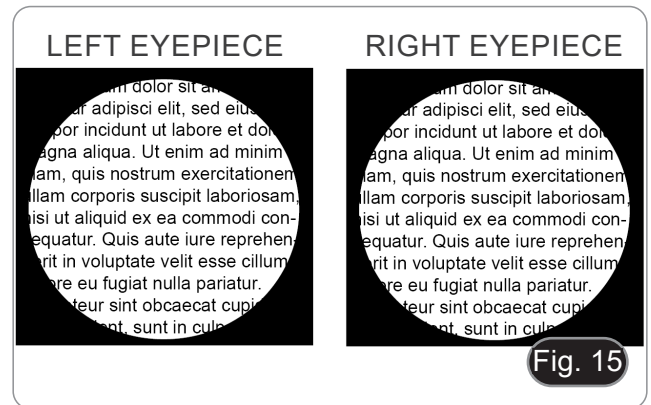

Fig. 15
5. The final result of the centering operation should be something similar to what is shown in Fig. 15.